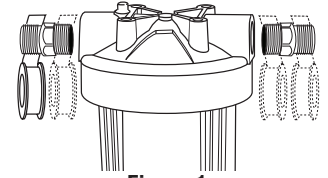

Figure 1
3. Wrap PTFE tape around the 1" male compression adaptors (to the right, see Figure 1) and screw firmly to filter head. **Do not use pipe solvent (dope) as some types may cause damage to plastic fittings. Do not overtighten as it may cause damage to filter head. Damage to unit may result in property damage due to water leakage.**